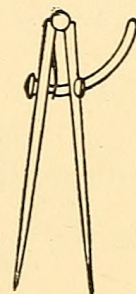

FIG. 35.
**Wing Dividers** (Fig. 35) come in handy for a number of operations, but are used principally for describing circles and laying off measurements. The *thumb-screws* make it possible to adjust the dividers very accurately to any desired measurement. Until you can get a pair of these you may use a stick with a couple of nails driven through it, or a piece of cardboard with a pencil and pin pushed through it, for a compass, and measurements may be laid off by means of a *rule*, a *straight-edge* (a stick with a straight edge), or a piece of paper.1